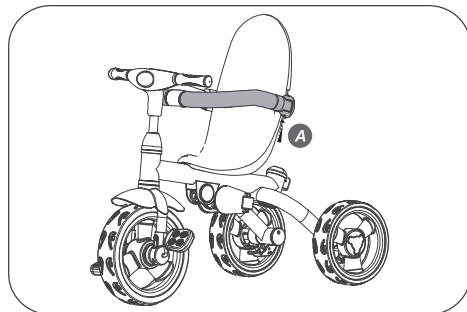

Fig. 19
25. To remove the Handrail, Left depress the Handrail Release **A** and pull off. Repeat depressing the Handrail Release on the right side and pull the Handrail Right off. (See Fig. 19).